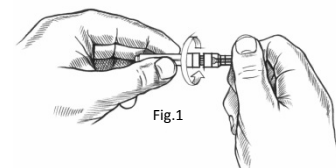

Fig.1
- Remove the cover over the valve section of the needle. (Fig.1)